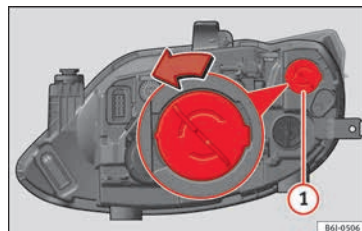
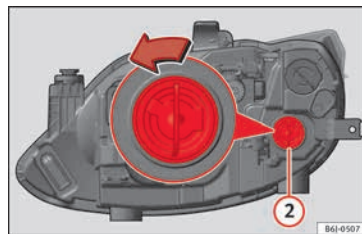

Fig. 92 Single headlight DRL light (day light).
Fig. 93 Single turn signal lamp.
- Turn the bulb holder **» Fig. 92 ①** or **» Fig. 93 ②** to the left and pull.